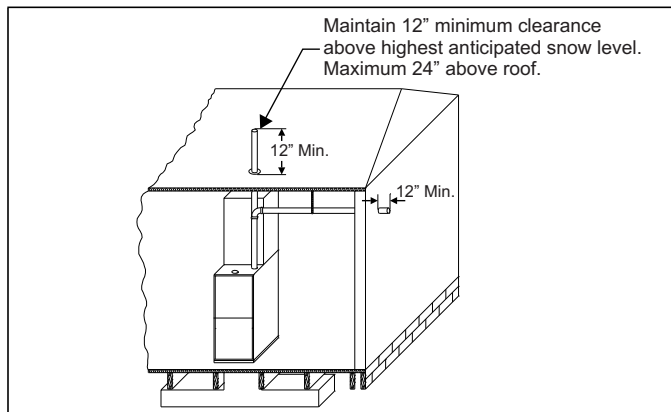

FIGURE 35: Termination Configuration - 1 Pipe
The combustion air side of the single pipe configuration shown in Figure 42 is referred to in these instructions as ambient combustion air supply. Follow the instructions for ambient combustion air installations, paying particular attention to the section on air source from inside the building. The vent for a single pipe system must be installed as specified in the venting section of these instructions with both vents terminating as shown in Figure 35. Each furnace must have a separate vent pipe. Under NO circumstances can the two vent pipes be tied together.
2. **AMBIENT COMBUSTION AIR:** Combustion air is supplied from the area surrounding the furnace through openings in the furnace casing. The combustion air and the vent pipes are not terminated in the same atmospheric zone. Refer to Figure 35 for vent terminations. Refer to "Ambient Combustion Air Supply" for proper installation. Refer to Figures 42 and 43.